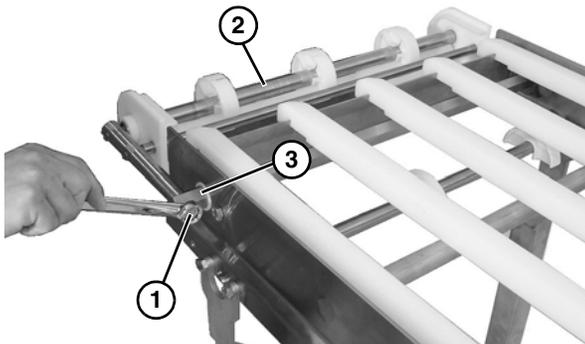

Figure 62
- Remove bolt (**Figure 62, item 1**) from each side, and remove idler tail assembly (**Figure 62, item 2**) from take up blocks (**Figure 62, item 3**).